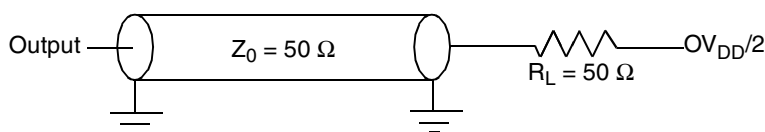

Figure 22. Local Bus C Test Load
Figure 22 provides the AC test load for the local bus.
1. All outputs are measured from the midpoint voltage of the falling/rising edge of t_{CLK} to the midpoint of the signal in question. The output timings are measured at the pins. All output timings assume a purely resistive 50-Ω load (see Figure 22). Time-of-flight delays must be added for trace lengths, vias, and connectors in the system.
2. The symbols used for timing specifications herein follow the pattern of $t_{(first\ two\ letters\ of\ functional\ block)(signal)(state)\ (reference)(state)}$ for inputs and $t_{(first\ two\ letters\ of\ functional\ block)(reference)(state)(signal)(state)}$ for outputs. For example, t_{JTDVKH} symbolizes JTAG device timing (JT) with respect to the time data input signals (D) reaching the valid state (V) relative to the t_{JTG} clock reference (K) going to the high (H) state or setup time. Also, t_{JTDXKH} symbolizes JTAG timing (JT) with respect to the time data input signals (D) went invalid (X) relative to the t_{JTG} clock reference (K) going to the high (H) state. Note that, in general, the clock reference symbol representation is based on three letters representing the clock of a particular functional. For rise and fall times, the latter convention is used with the appropriate letter: R (rise) or F (fall).